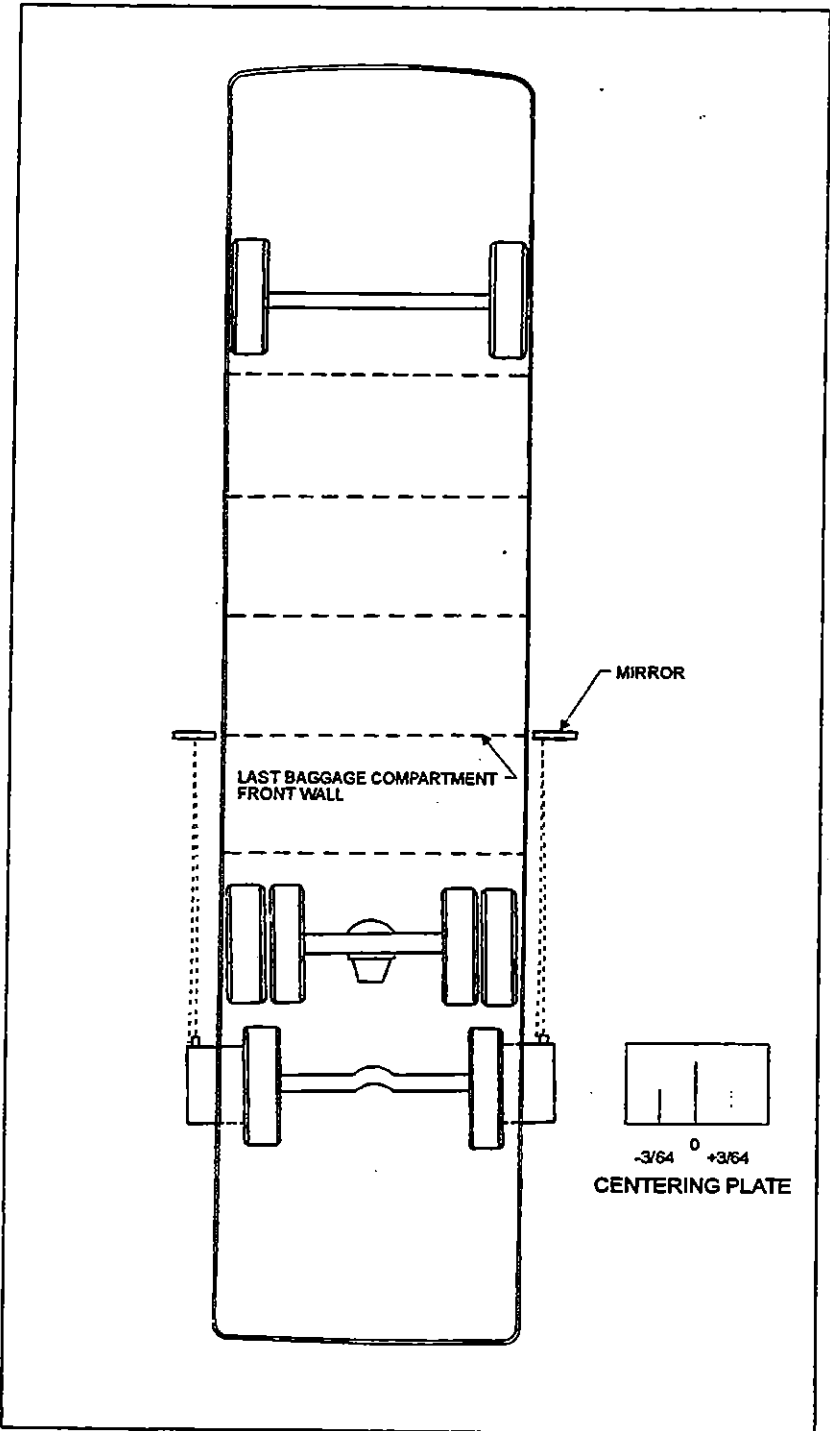

Figure 3: Tag Axle Alignment
5. Install a mirror on each side of vehicle, at level of the last baggage compartment front wall (Fig. 3) for installation.
In one action, hold the plug, press the lock tab on the top of the plug housing and pull the plug from the connector. **Figure 3**.